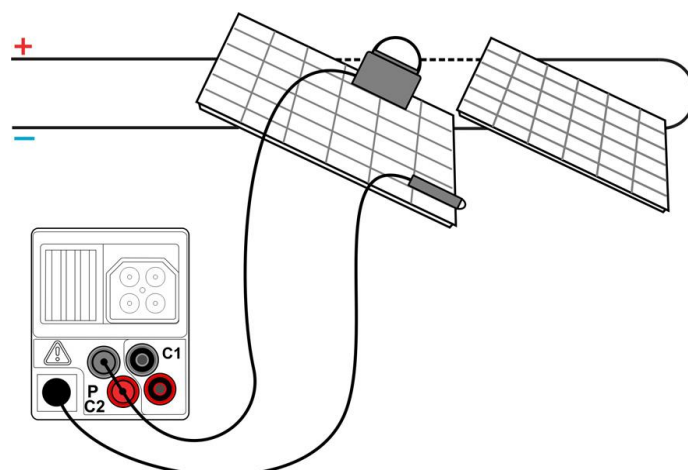

Figure 6.18: Measurement of environmental parameters
- ❑ **Connect** environmental probes to the instrument (see figure 6.18).